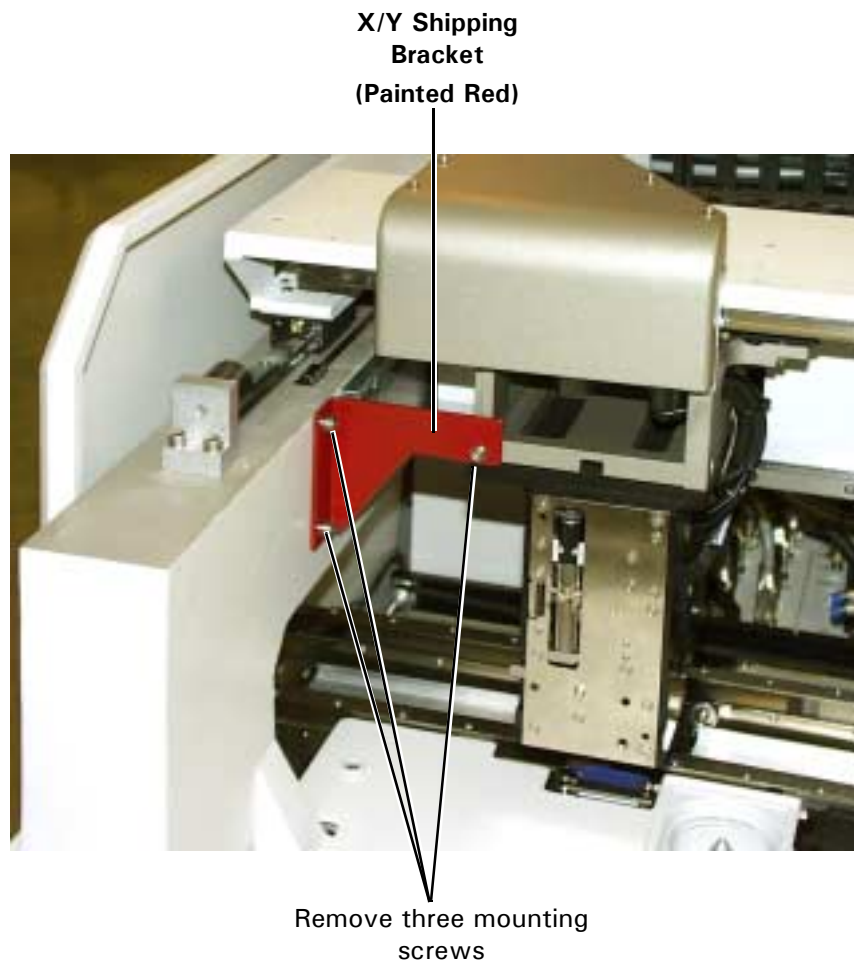

Figure 3-8
4. Remove the gantry shipping bracket by removing the three (3) mounting screws. The shipping bracket is painted red and is marked by a red tag. See Figure 3-8.